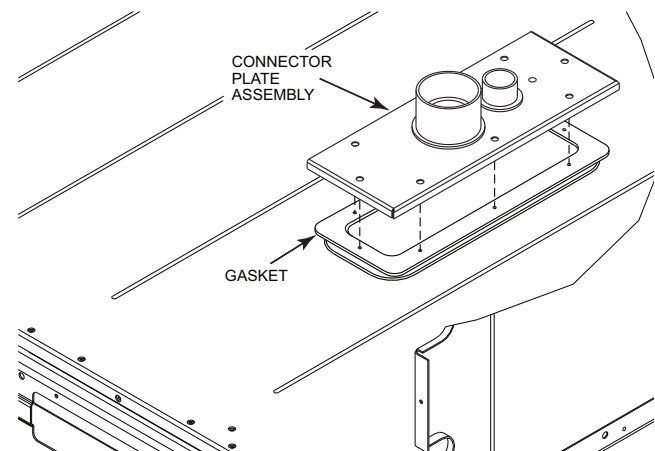

Fig. 34 — Installing Thru-the Base Option
3. Place the gasket over the embossed area in the basepan, aligning the holes in the gasket to the holes in the basepan. See Fig. 34.